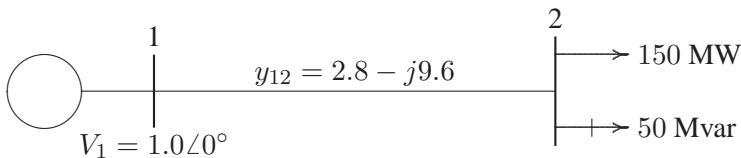

FIGURE 58
6.10. In the two-bus system shown in Figure 58, bus 1 is a slack bus with $V_1 = 1.0 \angle 0^\circ$ pu. A load of 150 MW and 50 Mvar is taken from bus 2. The line admittance is $y_{12} = 10 \angle -73.74^\circ$ pu on a base of 100 MVA. The expression for real and reactive power at bus 2 is given by